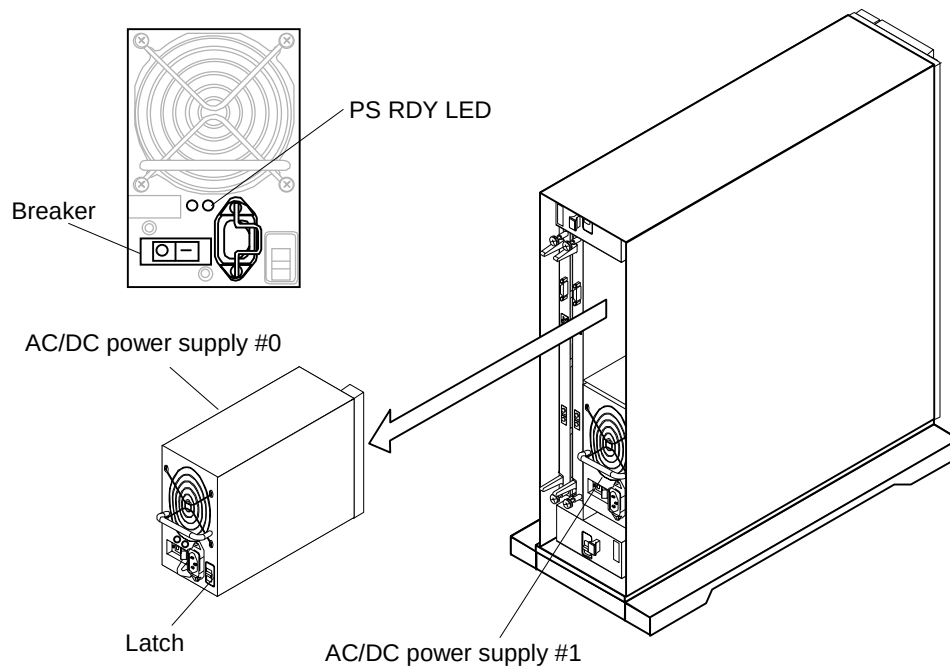

Figure 4.4.10 Replacing AC/DC Power Supply
(1) Procedure for replacement with the power turned on (See Figure 4.4.10)